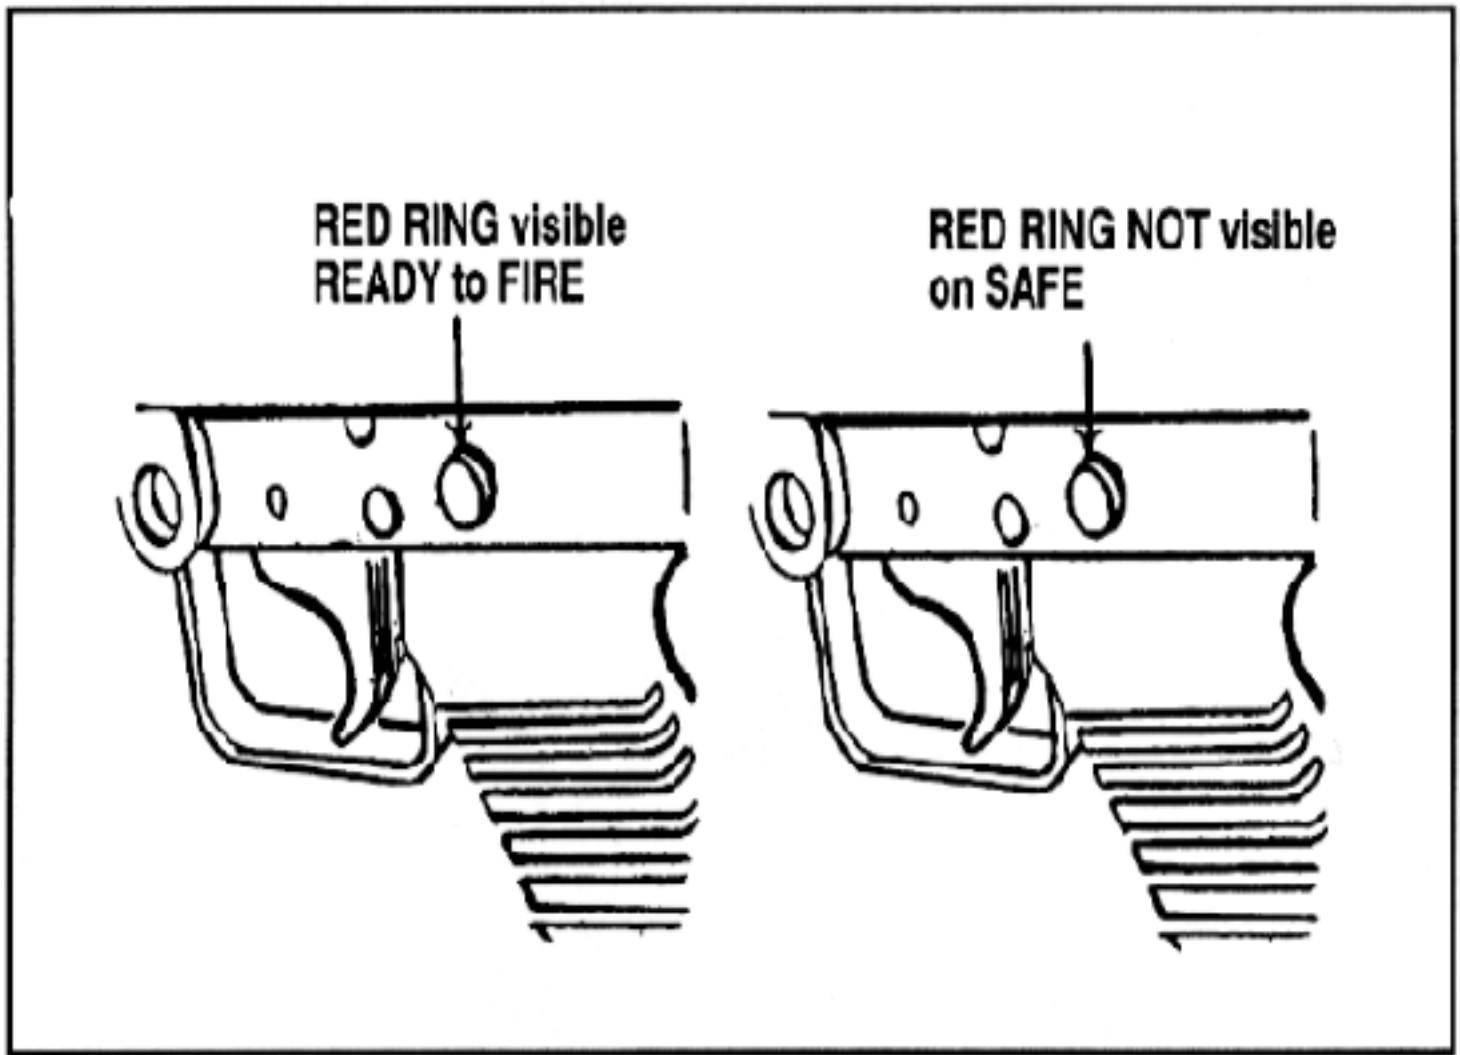

Figure 1-4. M249 AR safety.
b. **Safety.** The safety (Figure 1-4) is in the trigger housing. The safety is pushed from left to right (red ring NOT visible) to render the weapon SAFE, and the bolt cannot be released to go forward. The safety is pushed from right to left (red ring visible) to render the weapon ready to fire. The cocking handle on the right side of the weapon is used to pull the bolt to the rear.
Figure 1-4. M249 AR safety.